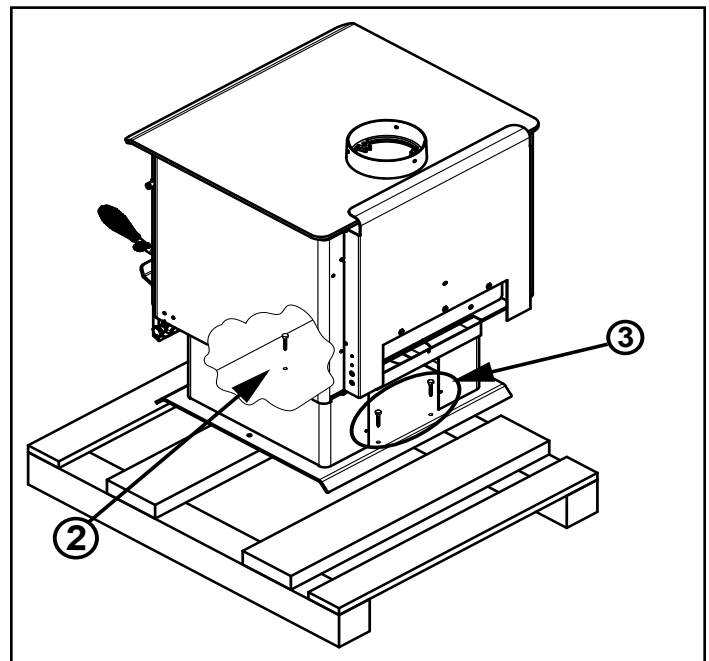

Figure 6.1
2. Using 7/16 socket or wrench remove one bolt located inside front part of appliance (**Figure 6.1**).
3. Moving to the back of the appliance and using 7/16 socket or wrench remove two bolts (**Figure 6.1**).